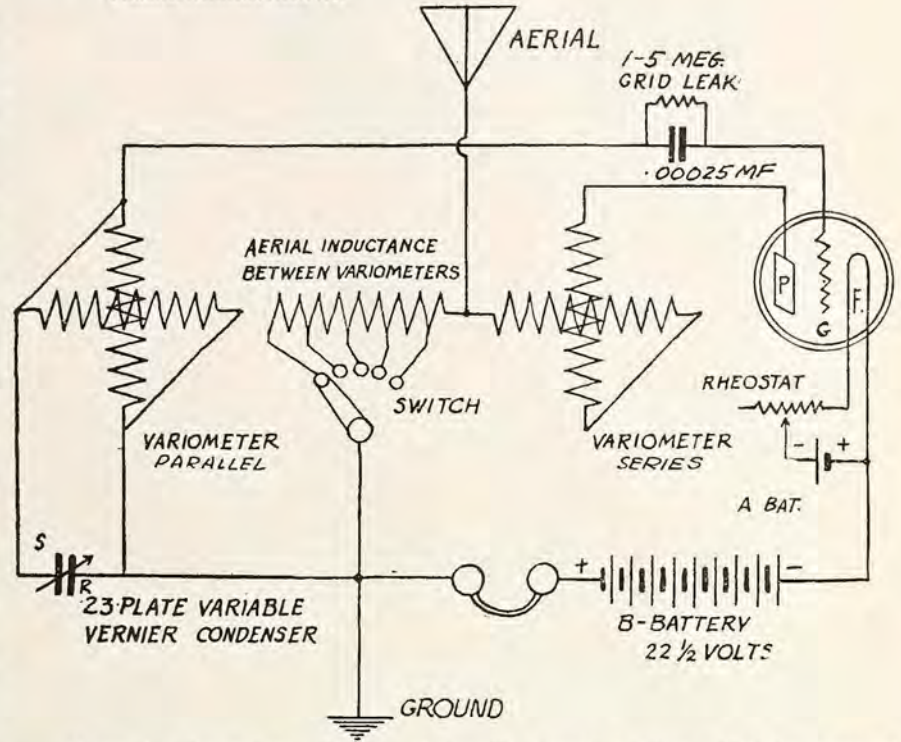

Figure 2—The wiring diagram of the Kopprasch receiver. Note the unusual connections of the variometers.
twice the number of turns, or else employ one primary coil with two equal secondaries mounted on either side of the primary, the two secondary coils being connected in series. This construction is shown by Fig. 2 where the primary coil (PRI) is sandwiched in between the two secondary coils (SEC). The secondaries are connected in series by the bridge wire (M) and particular care must be taken so that the windings of the coils are in the same direction. If this is not done, then the coils will "buck" one another and no transformation will take place. The fixed condenser (K) is connected across the primary coil as usual, and the size of this coil and the condenser are determined by the wave length table as before. This is a very bulky and rather expensive construction.
A more compact winding, particularly adapted to wave lengths above 5,000 meters where many turns are required, is the "spool type" transformer of Figure 3. This spool contains three grooves, the center groove containing the primary winding while the two outer grooves contain the two halves of the secondary winding. The secondaries are connected in series as in Figure 2, and needless to say, all coils are wound in the same direction. No tuning condenser is used for the primary coil as the natural wave length of this coil alone is sufficient to bring the wave length up to 10,000 meters without the aid of the condenser. As each half of the secondary contains twice as many turns as the primary, it is evident that the total transformer ratio is four to one.
After these coils are wound, and the outer ends are fixed by a dab of sealing wax we can place them within a metal container or else place them within a metal tube for protection and shielding. The four ends of the coil are then brought out to the binding posts after the two secondary coils have been connected in series as shown by Figure 2. To connect the coils of the secondary in series, the inside end of one of the outer coils is connected to the outer end of the other outside coil. Care should be taken to
board tube, two inches long, and of sufficient diameter to allow the rotors of the variometers to clear it. Fifty-five turns of No. 20 DCC wire is wound on the tube, tapping at every eleventh turn. These taps are connected to the switch points as shown in Figure 2.
in parallel, that is, one end of the rotor winding is connected to one end of the stator winding as shown under "parallel" in Figure 3. The connections are made at the points indicated at C. A 23 plate vernier variable condenser is connected across the terminals C and C as indicated in Figure 2, on the wiring diagram.